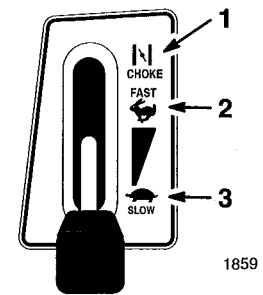

Figure 8
4. Move the throttle lever to "CHOKE" (Fig. 8).
6. After the engine starts, slowly move the throttle lever to "FAST" (Fig. 8). If the engine stalls or hesitates, move the throttle lever back to "CHOKE" for a few seconds. Then move the throttle lever to "FAST." Repeat this as required.
1. Move the throttle lever to "SLOW" (Fig. 8).